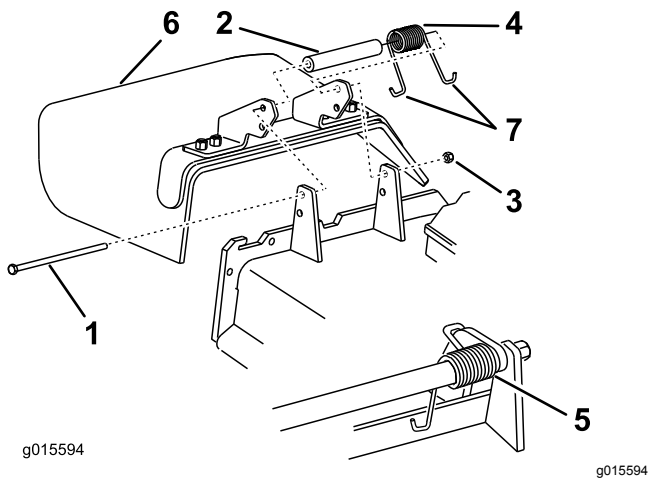

Figure 90
1. Remove the locknut, bolt, spring, and spacer holding the deflector to the pivot brackets (Figure 90).
**Note:** Make sure that 1 J-hook end of spring is installed behind deck edge before installing the bolt as shown in Figure 90.
6. Place 1 J-hook end of the spring around the grass deflector (Figure 90).